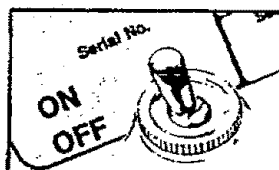

Figure 9
- Move the ignition switch to the "ON" position. Figure 9.
- Move ignition switch to the "ON" position. Figure 9.